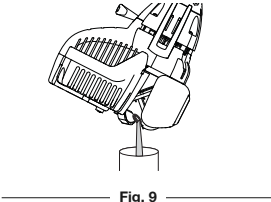

Fig. 9
3. Pour the oil out of the oil fill hole and into a container by tipping the unit to a vertical position (Fig. 9). Allow ample time for complete drainage.